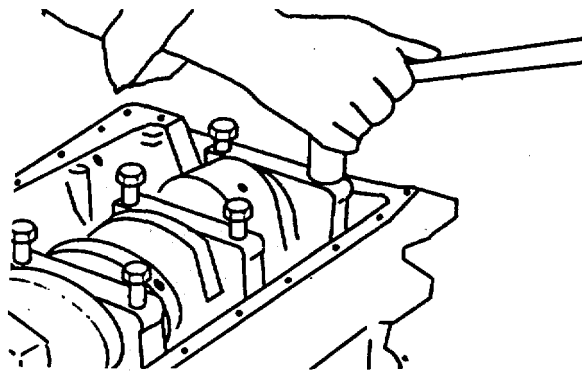

FIGURE 4-56. Main Cap Bolt Removal.
4-13. Replace/Repair Crankshaft and Main Bearing Group. (FIGURE 4-56)
- a. Rotate the engine to a horizontal position and remove the main cap bolts as shown in FIGURE 4-56.